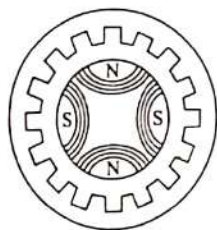

Fig. 2: Alternator with cylindrical type rotor
- This type of rotor has got smooth magnetic poles in the form of a closed cylinder as shown in Fig. 2.